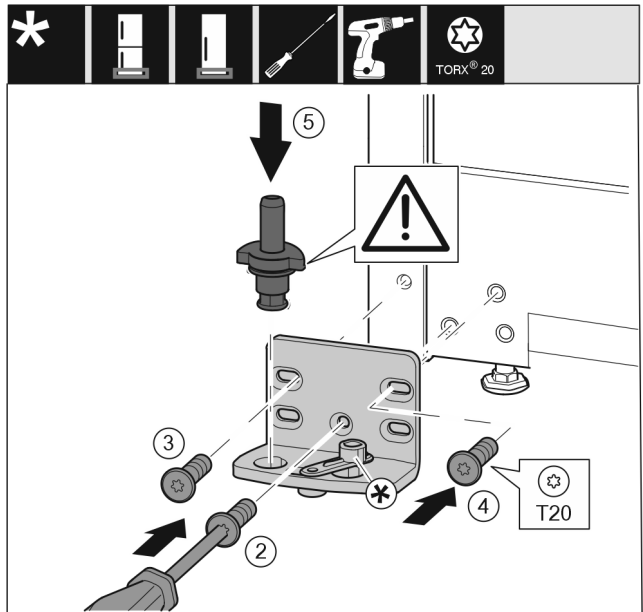

Fig. 31
- ▶ Place the swap bearing block on the other side and use a screwdriver to screw it on. Start with the screw Fig. 31 (2) at the bottom in the middle.
- ▶ Tighten screw Fig. 31 (3) and screw Fig. 31 (4).
- ▶ Insert the bearing bolt Fig. 31 (5) completely. Ensure that the latching cam is pointing towards the rear.